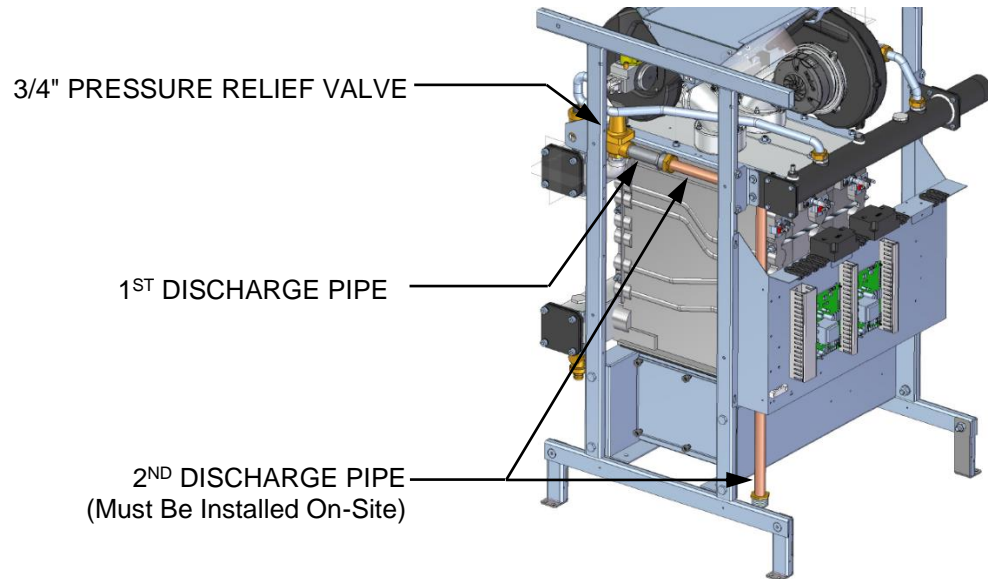

Figure 4-16: 3/4" Pressure Relief Valve & Factory Installation – Newer Models
On *newer* models (MLX EXT 450, 600, 800, 1100) with aluminum headers, the Pressure Relief Valve and first discharge pipe are factory installed inside the unit chassis. However, the second discharge pipe, included in the shipping container, must be installed on site (see Figure 4-16).
- On newer models (MLX EXT 450, 600, 800, 1100) with aluminum headers, the 3/4" Pressure Relief Valve is pre-installed inside the boiler chassis at the factory, as shown in Figure 4-16, above.